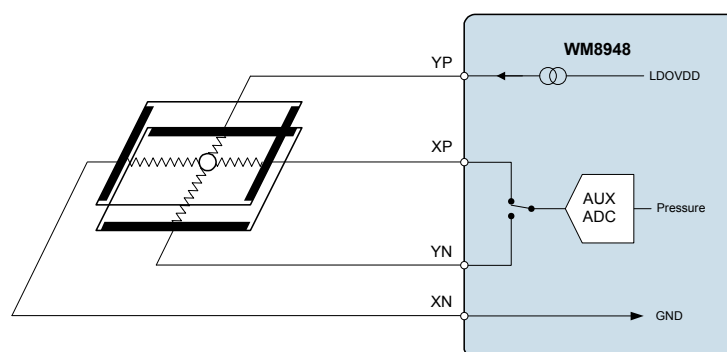

Figure 38 Z-axis (Pressure) Touch Panel Measurement
The configuration is illustrated in Figure 38. In this example, a constant current flows from the Top (YP) connection to the Left (XN) connection. The Right (XP) and Bottom (YN) points are measured in turn, and the difference,  $V_X - V_Y$  is equal to  $I_P \times R_C$ , where  $I_P$  is the current applied and  $R_C$  is the resistance between the plates. The smaller the measured resistance, the greater the pressure being applied.